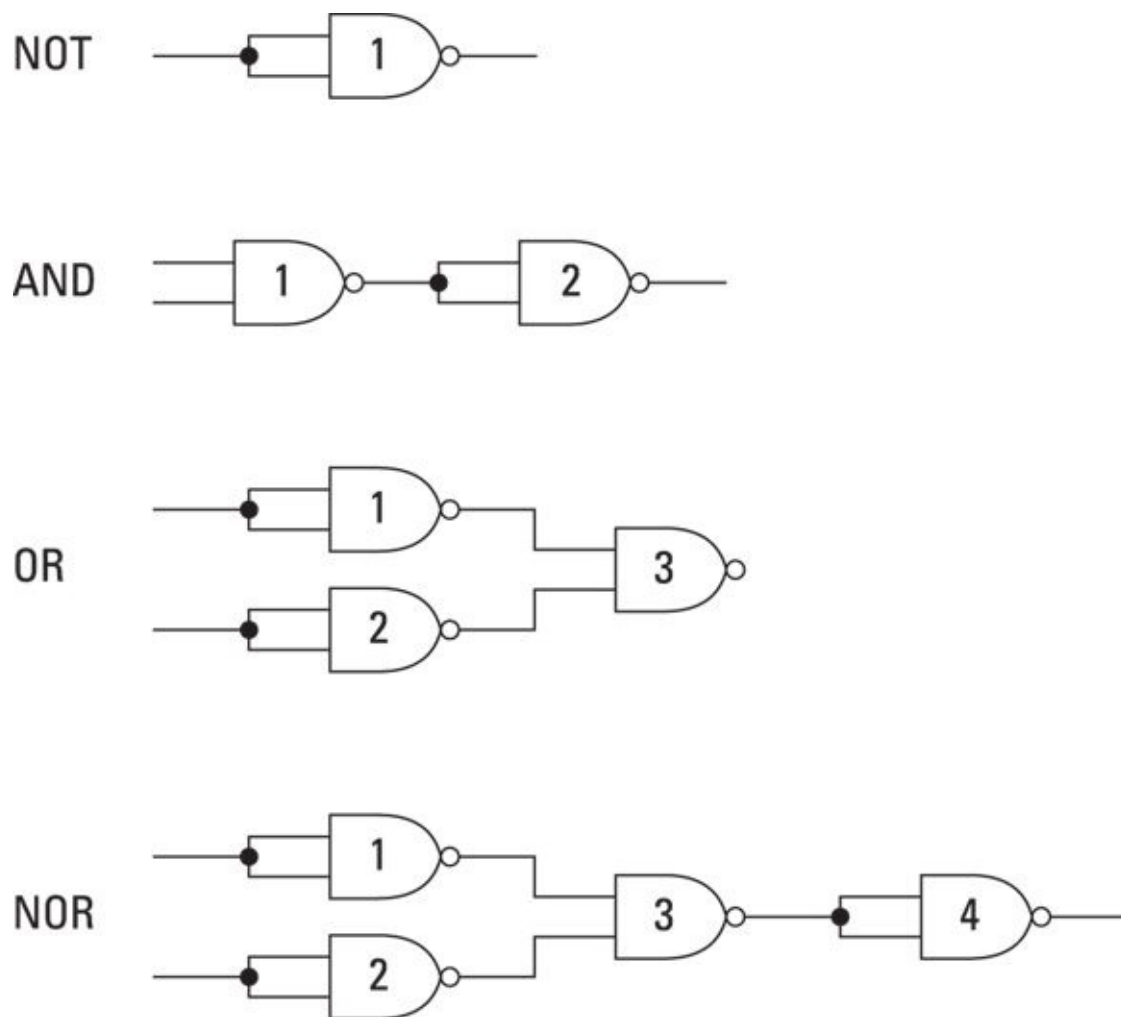

FIGURE 2-16: Creating NOT, AND, OR, and NOR gates by using nothing but NAND gates.
Figure 2-16 shows how you can use NAND gates in various combinations to create NOT, AND, OR, and NOR gates. The following paragraphs describe how the circuits work:
- **NOR:** It takes four NAND gates to create a NOR gate. As you can see in Figure 2-16, this circuit is the same as the OR gate circuit, with the addition of another NOT gate to invert the output from the third NAND gate. Inverting the output changes the overall function of the circuit from OR to NOR.